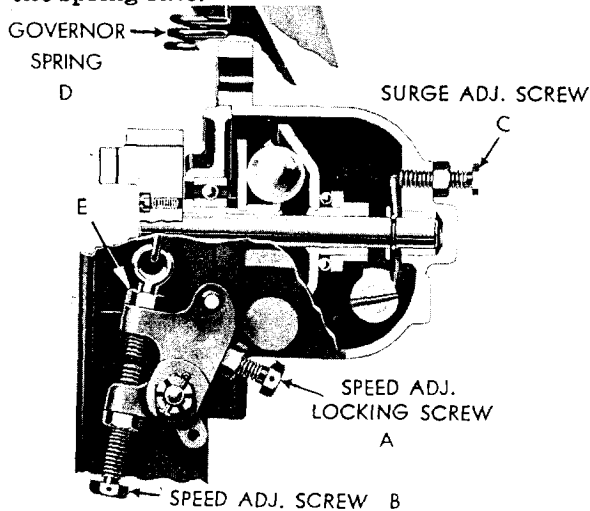

Figure 88 — Governor
- 1 — **Start the engine.** While it is warming up, back out surge adjusting screw "C" (Figure 88) so it will have no effect.